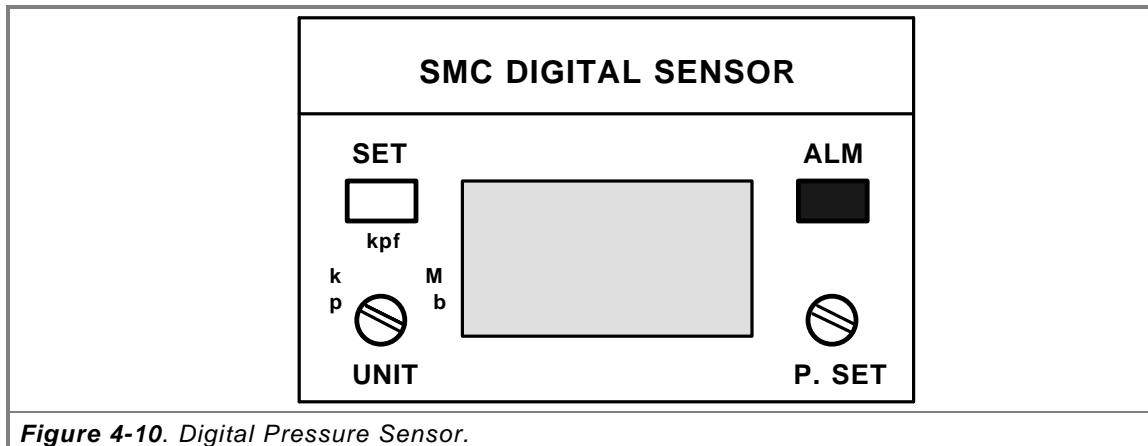

Figure 4-10. Digital Pressure Sensor.
1. Set the Digital Pressure Sensor **UNIT** selector switch to the 'p' position to read values in psi. Refer the Figure 4-10.